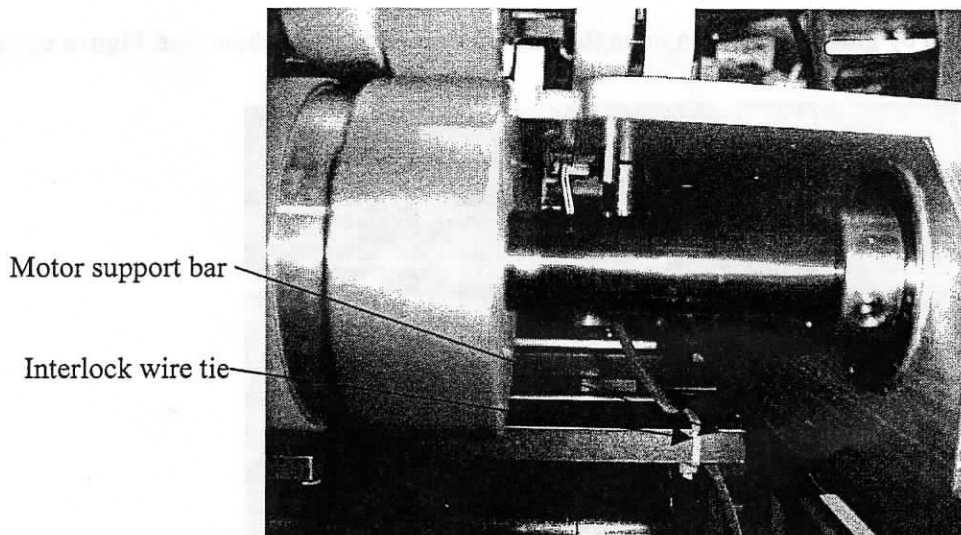

Figure 9
16. Route the wire from the interlock switch away from the tabletop belts and use a wire tie to secure the wire to the motor support bar (see **Figure 9**). Plug the interlock switch in the interlock plug.